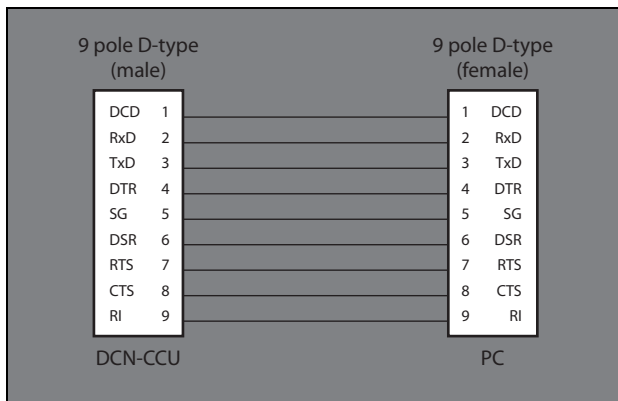
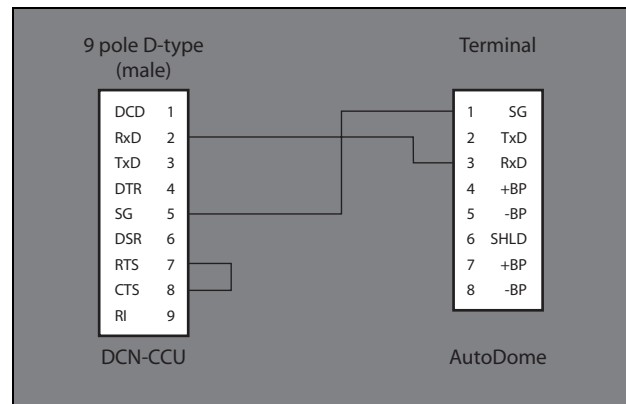

figure 8.24: DCN-CCU to PC
figure 8.25: DCN-CCU to AutoDome
- 7 Connect the serial ports of the central control unit to the PC and the AutoDome video camera (refer to figure 8.24 and figure 8.25).